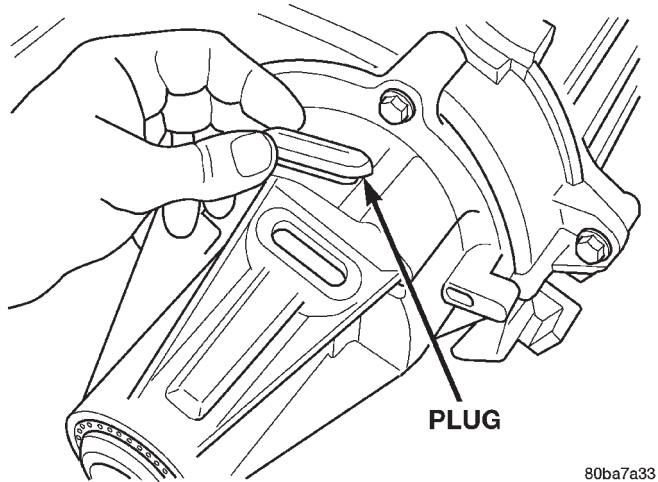

Fig. 15 Remove Rubber Access Plug
- (2) Remove rear bearing locating ring access plug (Fig. 15).